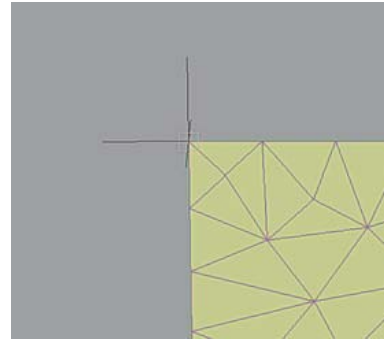

Figure 1.28: Inside the box is an example of a vertex constrained.
3. In the Cloth Menu Set, choose **Constraints** → **Transform**. A small box appears, indicating that vertex has a constraint on it (see Figure 1.28).